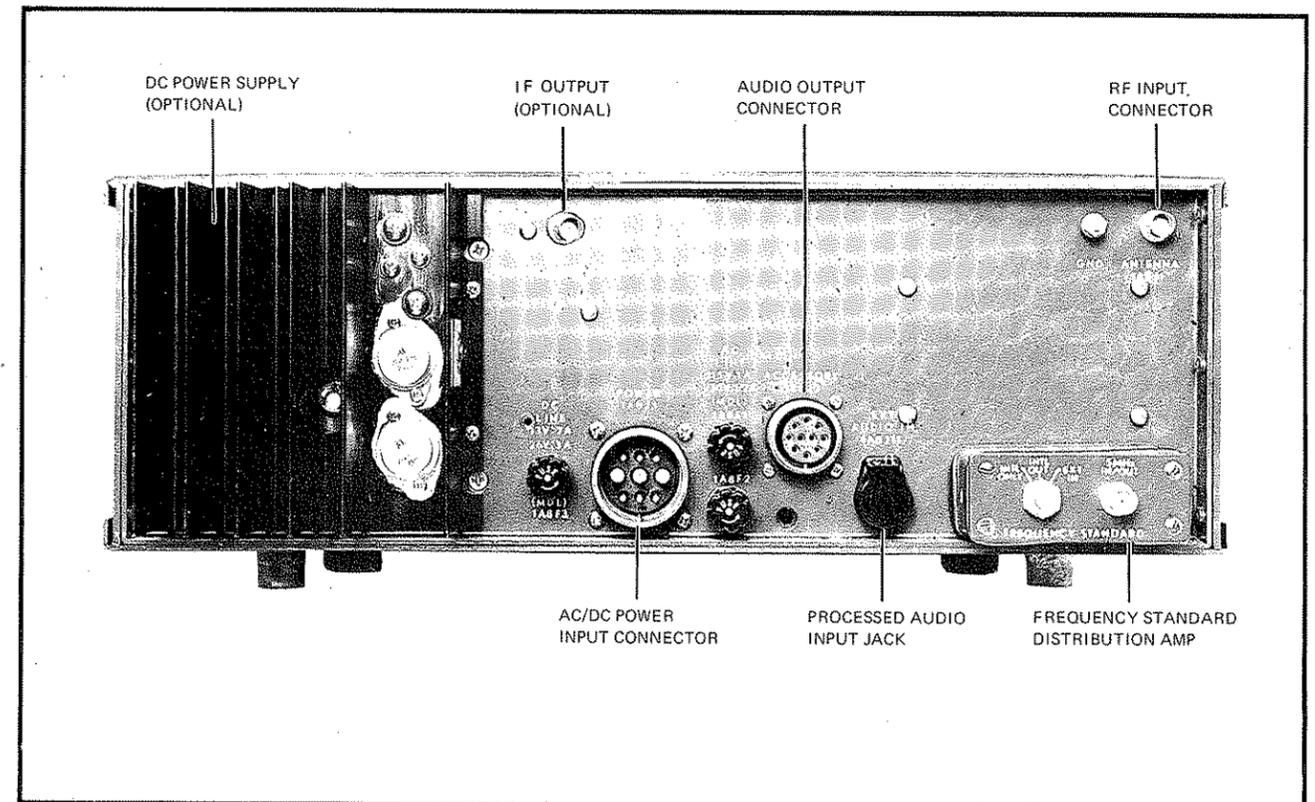

Figure 3.3 GSR-920 Rear Panel
3.3.1 Refer to Figure 3.3 for location.